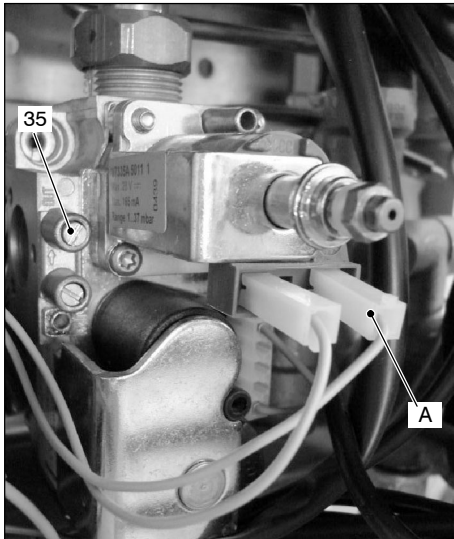

Fig. 7.4
- 2 Loosen the internal screw 35 (Fig. 7.4) on the Outlet Pressure Test Point of the Gas Valve and connect a pressure gauge using a suitable hose.
- 8 Disconnect the gas modulator coil by removing the electrical connector A (Fig. 7.4).
- 2 Open the gas valve outlet pressure test point 35 (Fig. 7.4) and connect the gauge.